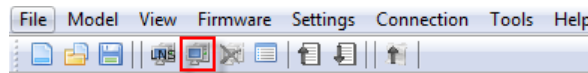

Figure 19: LINX Configurator software, Connect to device
1. Select the IP connection method by clicking on the **Connect to device** button in the tool bar as shown in Figure 19.